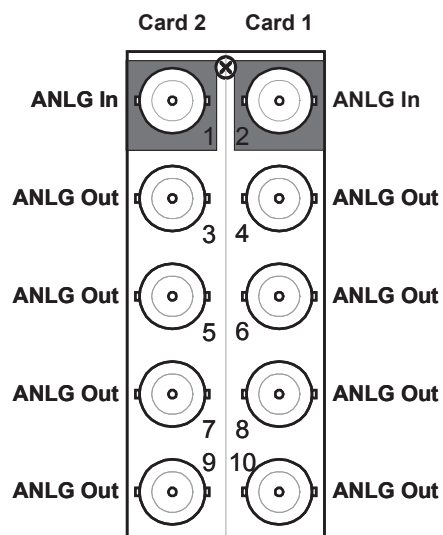

Figure 2.4 Cable Connections for the **8320AR-031** Rear Module
- **8320AR-031** Split Rear Module — Each rear module occupies two slots and accommodates one card. This rear module provides one analog input, and four analog outputs per card. (**Figure 2.4**)